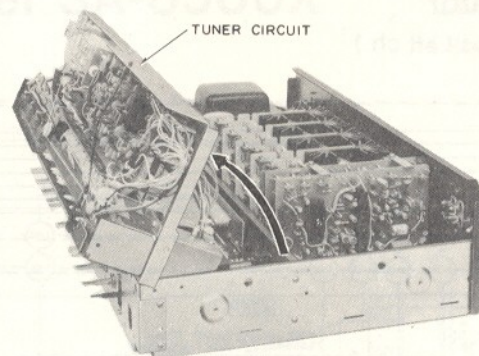

Fig. 1
7. Then tuner circuit can be moved in front of chassis as figure 1, and remove tuner circuit from chassis.